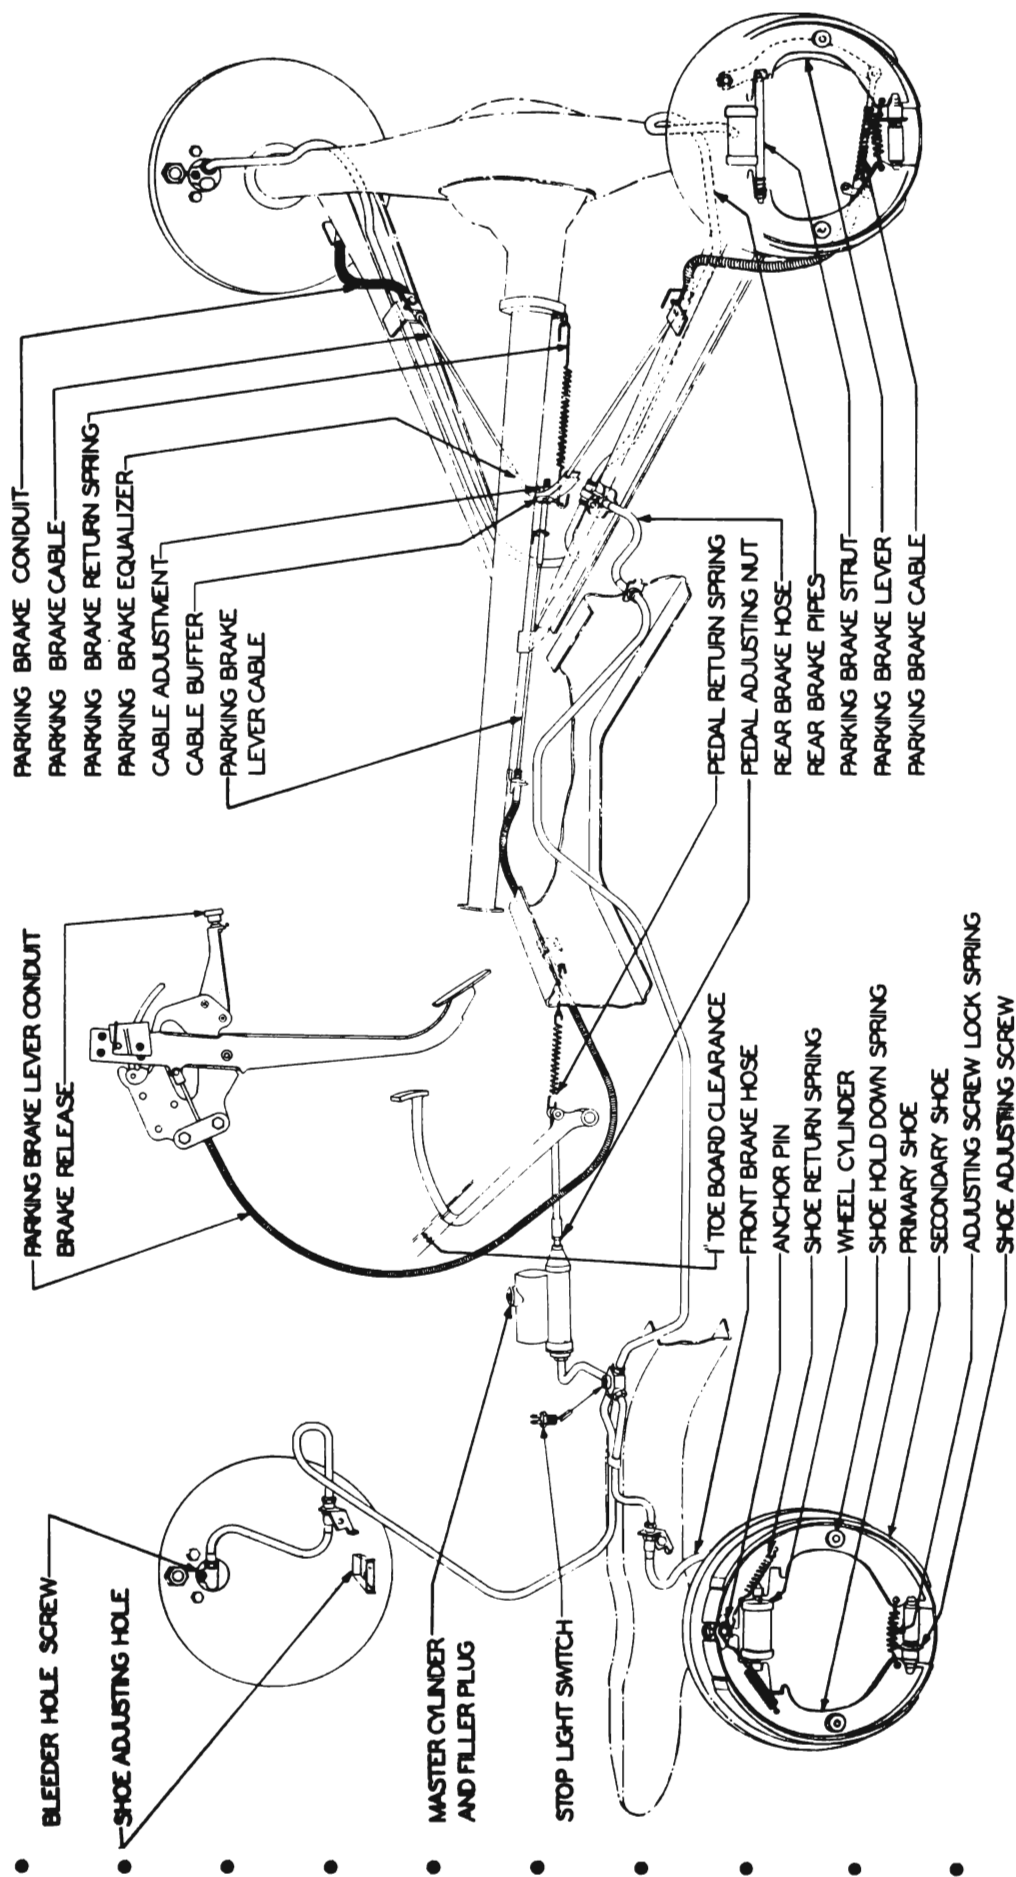

Fig. 5-8. Brake Adjustment Chart
Do not adjust when brakes are warm. Brake drums should be at approximately room temperature. Readjust brakes when pedal travels within 2 inches of toe board with brakes applied; or for high speed driving, when pedal travels within 3 inches of toe board. See Fig. 5-8.
1. Jack up car in safe manner and remove wheels. Check brake pedal for clearance at toe boards. See Fig. 5-8 or 5-13.
4. Loosen parking brake cable by backing off nut on equalizer. See Fig. 5-8.